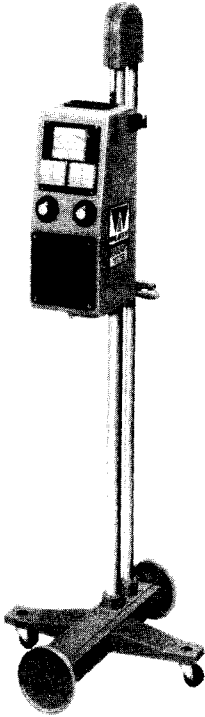

FIG. 1
2. Class I headlamps are to have their aim checked, or are to be aimed by their high beams only. These include the single beam 5¾" diameter, Type 1 lamps Nos. 4001 and 4006 with the figure 1 molded in the lens near the top. This class also includes the older 7" diameter dual filament headlamps which do not have a figure 1 or 2 molded in the lens near the top.